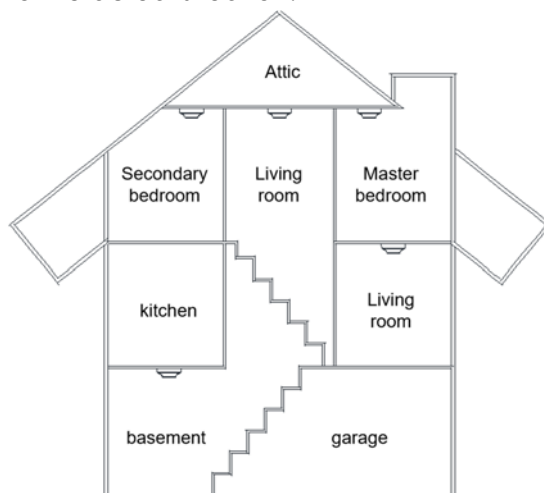

Figure 3 Schematic diagram of alarm installation position
① When installed on the roof: the edge of the alarm should be no less than 50cm from any wall.
② When installed on the wall: the alarm should be no less than 10cm from the top and no more than 30.5cm.
③ When installed on a sloping or human-shaped roof, the alarm should be kept at a certain distance from the roof. When the slope is less than 30 degrees, the distance should be 20cm, and when the slope is greater than 30 degrees, the distance should be 30cm~50cm.
④ For the smoke produced by the burning, the role of the stairs is similar to that of the chimney, so the stairs should be equipped with alarms.
⑤ Alarms should be installed in two areas with good air circulation, such as living room and bedroom. At least one alarm should be installed in each area.
⑥ The installation position of the alarm can be referred to Figure 3, please determine the best installation position according to the actual situation.